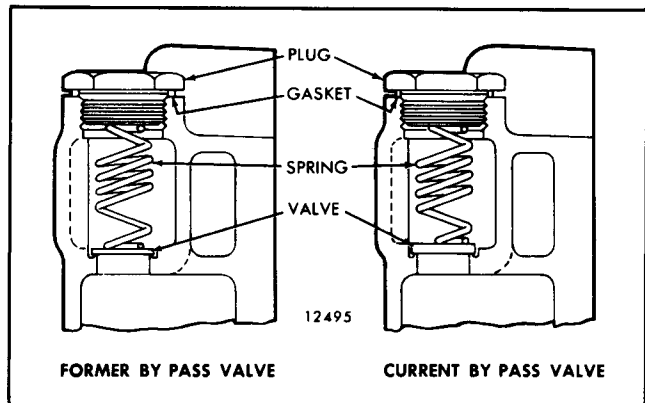
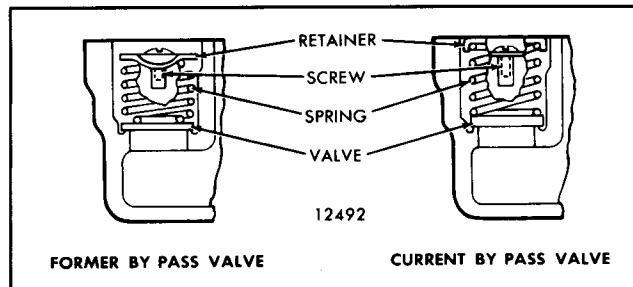

Fig. 6 - Bypass Valve Assembly Secured by Plug
Fig. 7 - Bypass Valve Assembly Secured by Retainer and Screw
2. Remove the plug and gasket (Fig. 6) or the screw and retainer (Fig. 7) and withdraw the spring and bypass valve.
5. Reassemble and install the bypass valve. Use only the current bypass valve and spring for service (Fig. 6). The current thicker valve and stiffer spring increase the bypass pressure from 13-18 psi (90-124 kPa) to 18-21 psi (124-145 kPa) to permit more efficient filtration. A thicker valve, stronger spring, heavier retainer and a longer retaining screw are currently used in the bypass valve assembly shown in Fig. 7. The filter adaptors and filter junction housings have been revised by deepening the valve cavity to accommodate the thicker valve and related parts.